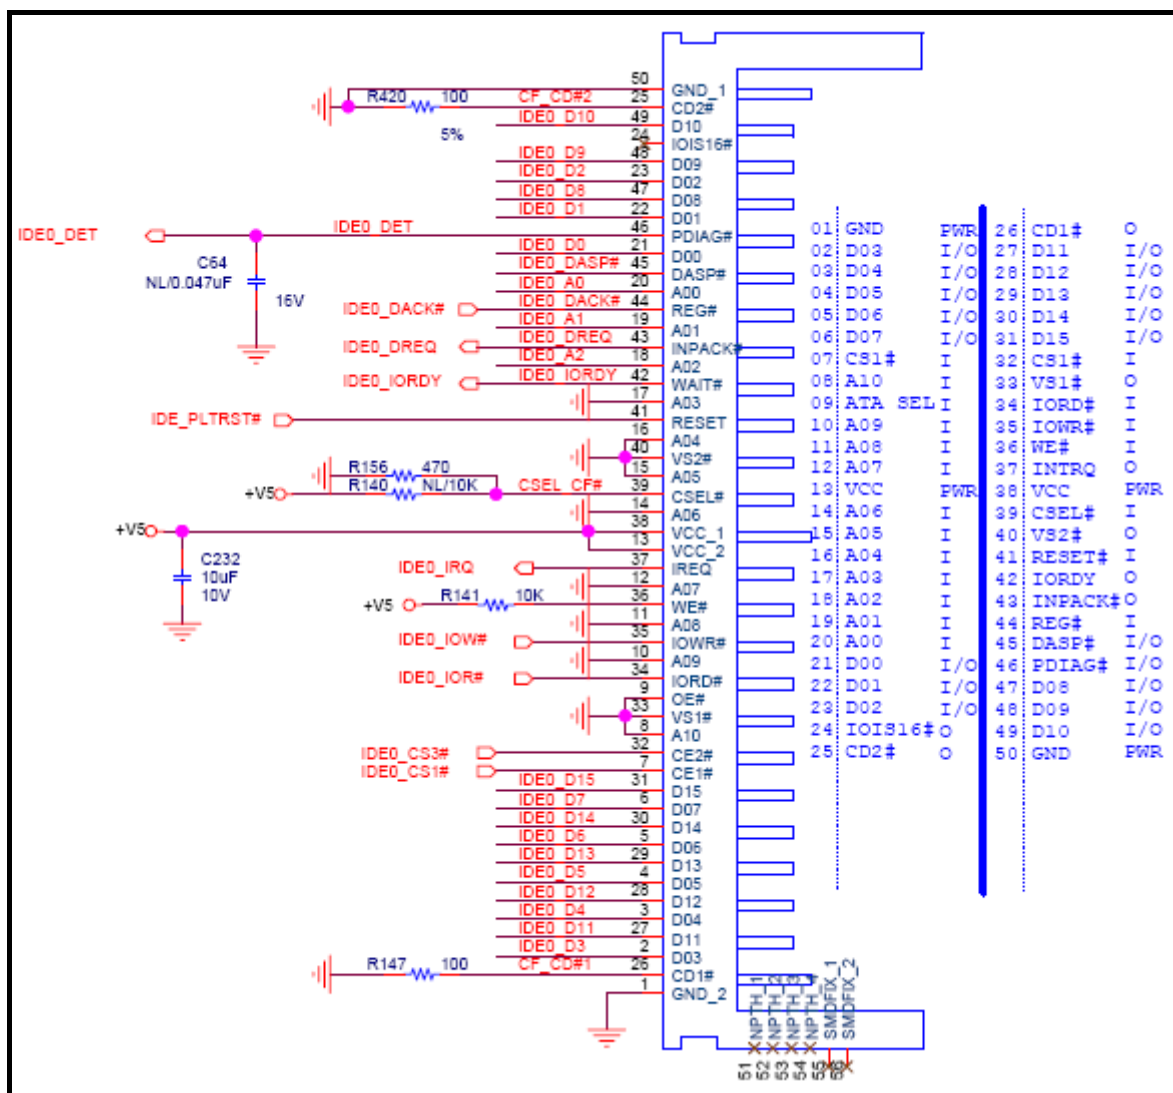

Figure 4. CompactFlash (CF) Socket Schematic
3.2.1 CompactFlash (CF) Socket and Schematic
For the IDE application, the CompactFlash (CF) card cannot be hot-plugged. If hot-plug support is necessary, the PCI-based Card-Bus controller chip can be integrated onto the platform and used to control the CF hot-plug function. Figure 4 shows the CF schematics.